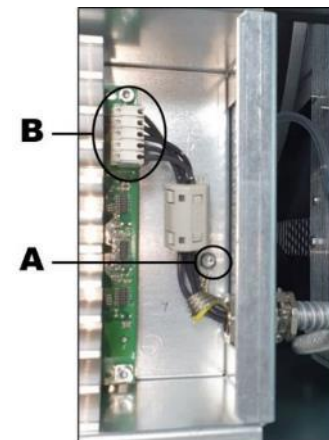
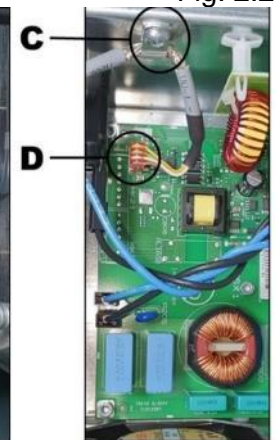

Fig.2.3
Fig.2.4
5. Disconnect the cables that connect the inverter to the motor (Fig. 2.3/ **B**) and the communication cable (Fig. 2.4/ **D**).
6. Loosen the grounding screws **C** and **A** (Fig.2.3 / 2.4).